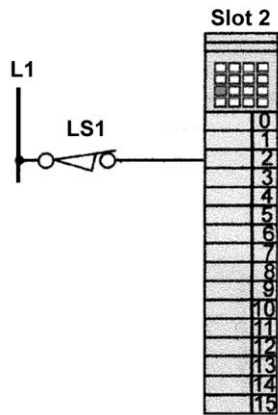

Figure 5-9 Module for question 26.
26. The most likely module address for LS1 of Figure 5-9 is 26. _____